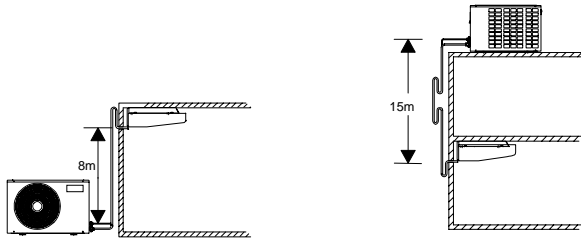

Fig. 6
- (6) Recommended combinations.
- (A) Total maximum length up to 20m.
- (B) Limit the number of bends to less than 8.
- (C) Piping fall limitation is upto 15m, see figure 6.
- (D) Piping head limitation is upto 8m, see figure 6.
- (7) Gas leakage test.